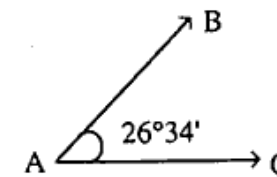

Figure 2
- c) Design members AB, AC and joint A of a roof truss. Post of which is shown in fig 2. 5